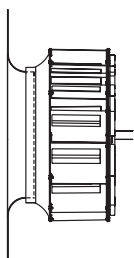

Figure 4
7. Rotate the wheel by hand to ensure that it does not rub and rotates freely. Wheel position is preset and the unit is test run at the factory. Movement may occur during shipment and realignment may be necessary. Refer to Figure 4 and chart for proper overlap dimensions.